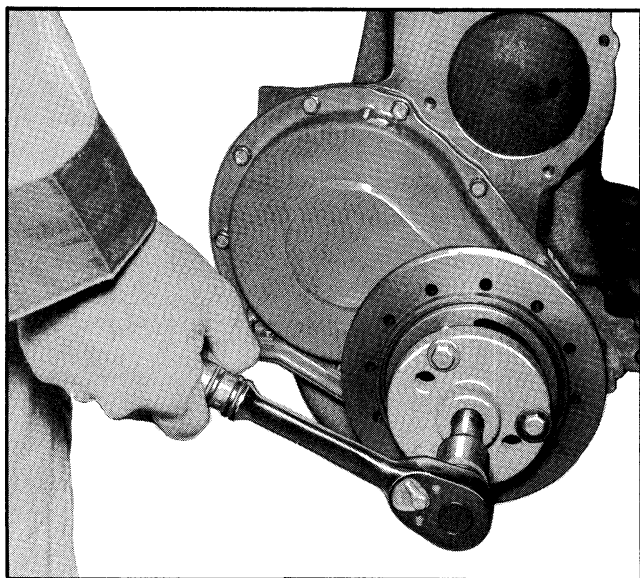

Fig. 6-40 Removing Harmonic Balancer
4. Install tool J-6978 to balancer and turn puller screw to remove balancer (Fig. 6-40). Then remove tool from balancer.